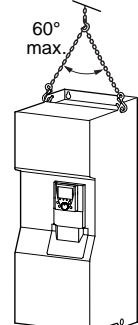

Figure 4
**3** Remove the screws holding the drive on the pallet and use a hoist to lift it off. It has lifting lugs for this purpose (Figure 4).